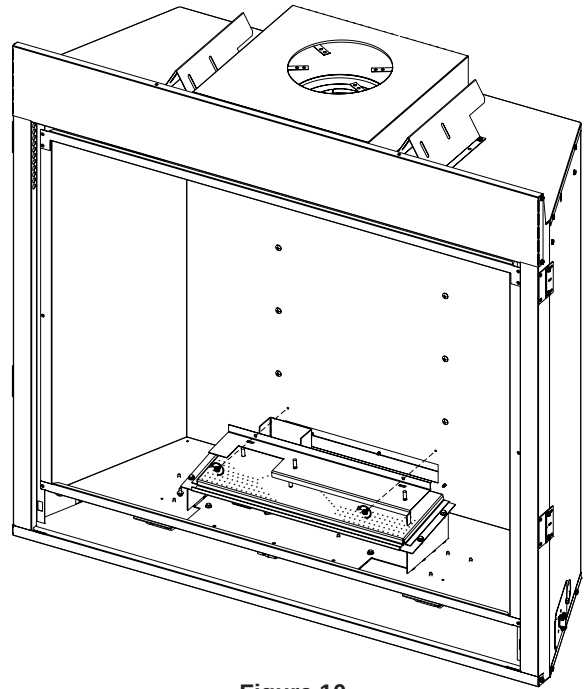

Figure 10
6. Remove log support by removing the two screws securing the metal plate to log support. Retain log support and screws for reassembly. **See Figure 10.**
16. Reinstall the log support and secure it with the metal plate and two screws removed in step 6. **See Figure 10.**